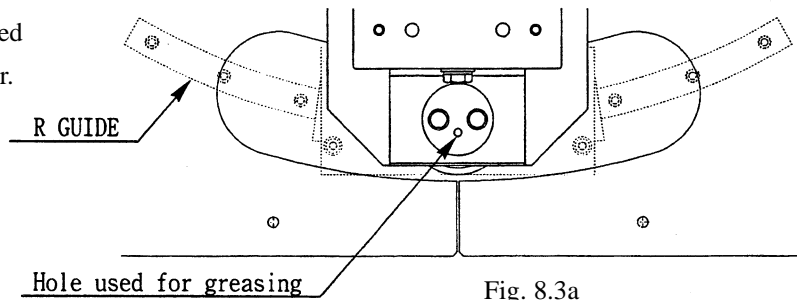

Fig. 8.3a
- ① Remove Rubber Upper A and Rubber Lower from the rear part of the Skate Board.
- ② The hole (through which greasing is applied) is located inside Blind Box A.
- ③ Insert the spray grease nozzle into the hole used for greasing, and perform spray greasing (photo 8.3c and Fig 8.3a).